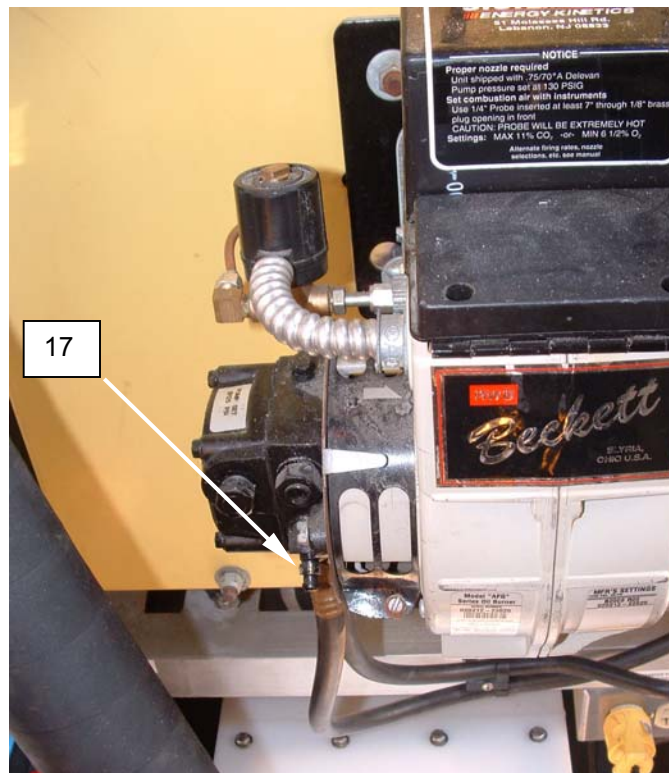

Figure 6. Bleed the Burner Fuel System.
1. Locate bleed fitting (**Figure 6, Item 17**) on fuel pump.
2. Open bleed fitting (**Figure 6, Item 17**) approximately ½ turn.
3. Operate boiler, and allow fuel to discharge from bleed fitting (**Figure 6, Item 17**) into an approved fuel container.
4. When fuel stream is solid with no bubbles or spitting, tighten fuel bleed fitting (**Figure 6, Item 17**).